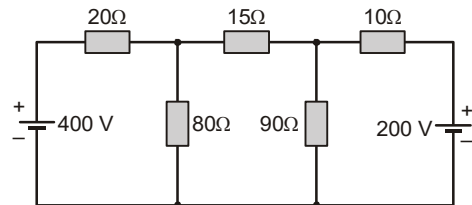

Fig.1.111: Given circuit
4. By applying thevenin theorem, find the current in 15Ω resistor of the network shown in fig.1.111. (Ans. 3.5A)